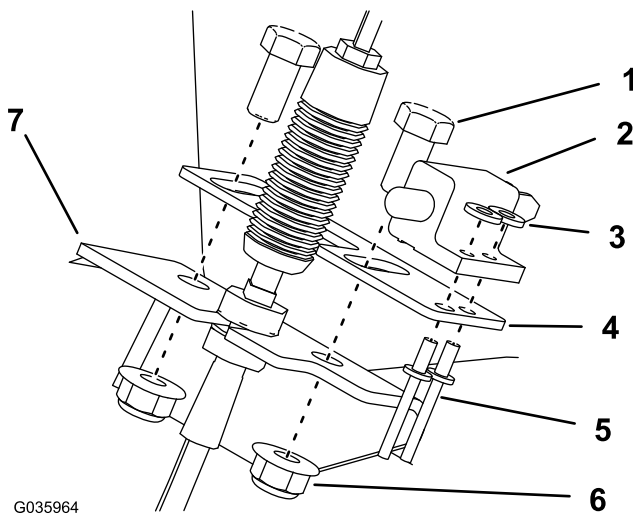

Figure 10
1. Install the clutch switch to the clutch-switch bracket with the 2 pop rivets and 2 flat washers (3/16 inch) as shown in Figure 10.
2. Install the clutch switch and clutch-switch bracket to the clutch-cable bracket with the 2 bolts (3/8 x 3/4 inch) and 2 nuts (3/8 inch) as shown in Figure 10.